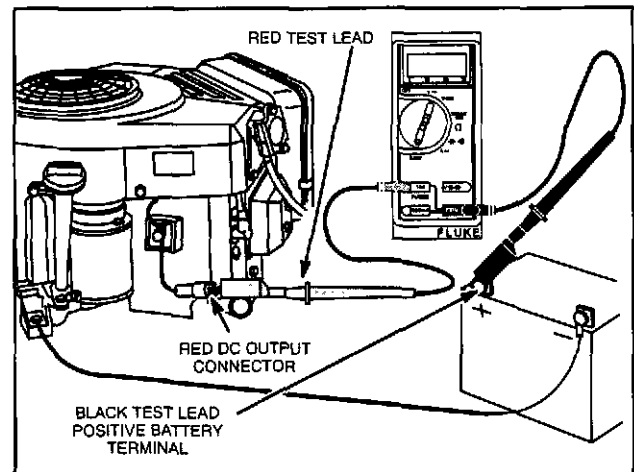

Fig. 21 - Testing Regulator-Rectifier
4. Attach RED test lead clip to red DC output terminal on regulator-rectifier, Fig. 21.